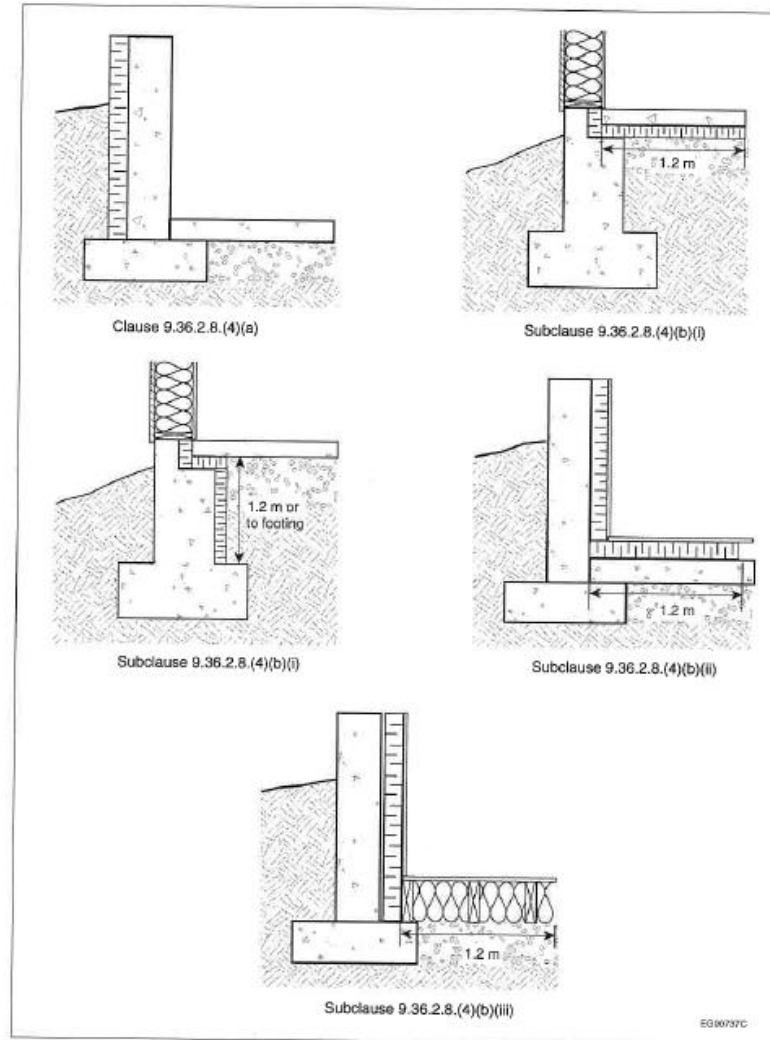

Figure A-9.36.2.8.(4)
A-9.36.2.8.(4) Unheated Floors-on-ground Above the Frost Line. Figure A-9.36.2.8.(4) illustrates the insulation options for unheated floors-on-ground that are above the frost line.